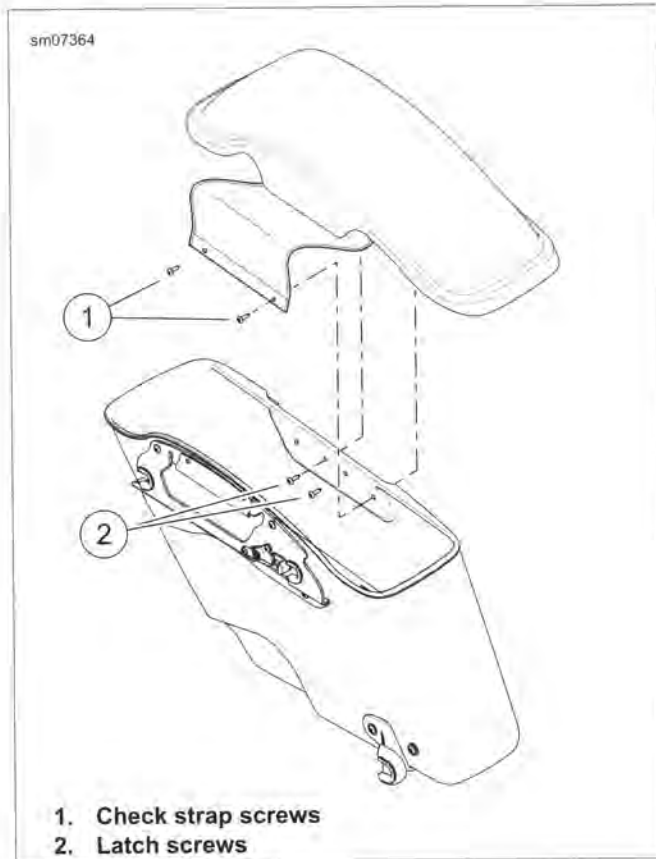

Figure 2-158. Saddlebag: FLD
2. See Figure 2-158. Remove two check strap screws (1) to release tether assembly from saddlebag.
3. Remove two latch screws (2) to release latch and lid from saddlebag. Set lid assembly aside.